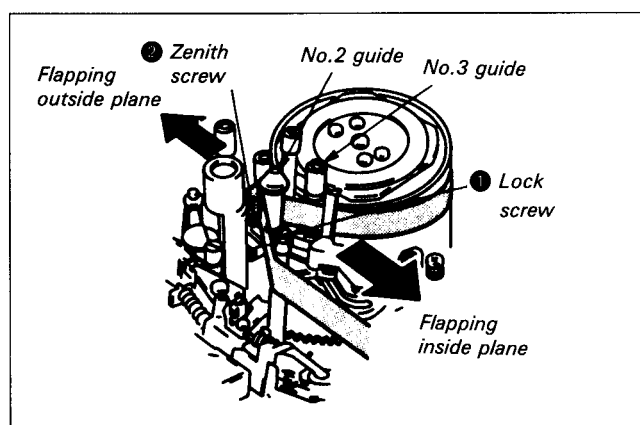

Fig. 7-66.
- 1) Playback the tracking alignment tape (WR5-1C) and loosen No.2 guide lock screw ❶, and rotate No.2 and No.3 guides counterclockwise to free tape running on the entrance side. (See Fig. 7-66.)
Adjust the No.2 guide zenith screw ② by turning it counterclockwise 90° at a time. (See Fig. 7-66.)
- 7) Tighten No.2 lock screw ①. (See Fig. 7-66.)